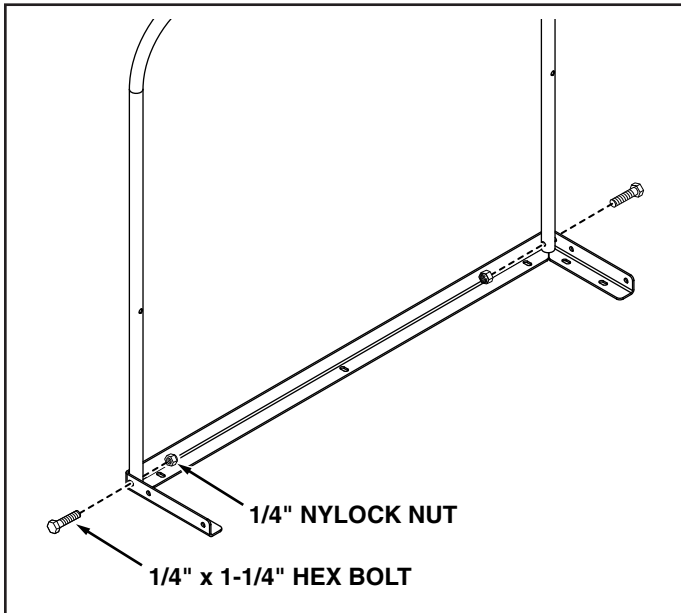

FIGURE 23
7. Secure front support tube to top angle support using two 1/4" x 1-1/4" hex bolts and 1/4" nylock nuts. **DO NOT TIGHTEN YET.** See figure 23.